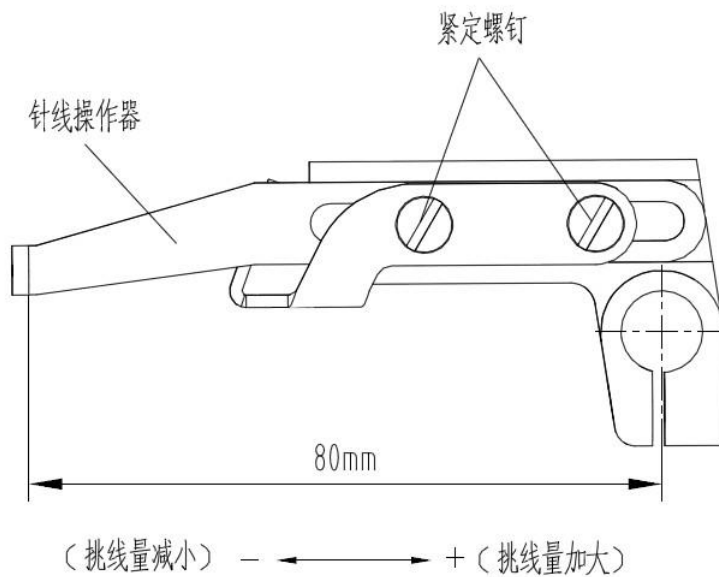

Figure8-2
2、松开紧定螺钉，左右移动针线操作器，如图 2 所示，把针线操作器边缘到摆动挑线杆轴的中心调整至 80mm，然后拧紧紧定螺钉，针对不同布料时可通过调节针线操作器边缘到摆动挑线杆轴的中心距离来调节挑线量，针线操作器边缘到摆动挑线杆轴的中心距离加大，挑线量减小，针线操作器边缘到摆动挑线杆轴的中心距离减小，挑线量加大（图 8-2）。
2、Release set screw ,shuffling the needle thread operator ,showed by figure 8-2 , change the distance between margin of needle thread operator and center of shuffling release pole rod to 80mm, then tight the set screw. For various type of fabric, we can adjust the thread taking up length by change this distance. The distance between margin of needle thread operator and center of shuffling release pole rod increase, the thread taking up length decrease. Also, the distance decrease, the thread taking up length increase.